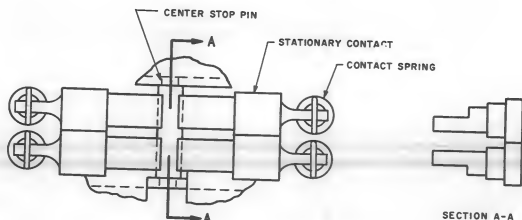

Fig. 7 — Positioning of Stationary Contacts
(8) With the 5-inch E screwdriver, force a stationary contact away from the center stop pin and toward its own pivot point until the contact stop surface is free of the center stop pin. The contact can then be removed with the fingers by disengaging the contact from its spring.
(9) In reassembling, the stationary contacts must be arranged in the pole units as shown in Fig. 7. Note the position of the back projection of each contact. If the contacts are not arranged as shown in Fig. 7, the back of the contacts will bear against the stud supports, causing possible damage to the contacts or failure of the breaker to latch in, when the breaker is closed.